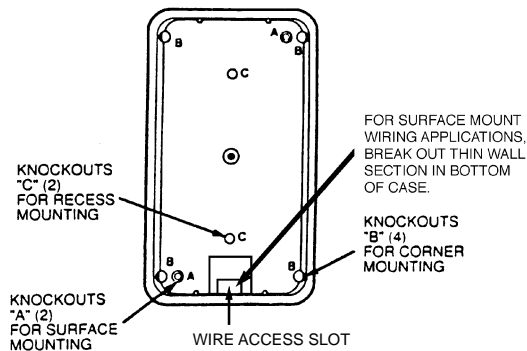

Figure 3. Detector Base
3. Refer to Figure 3. Knockout holes in the base are available for normal surface mounting on a wall (holes "A"), or for corner mounting (holes "B"). Break out only those mounting holes required.